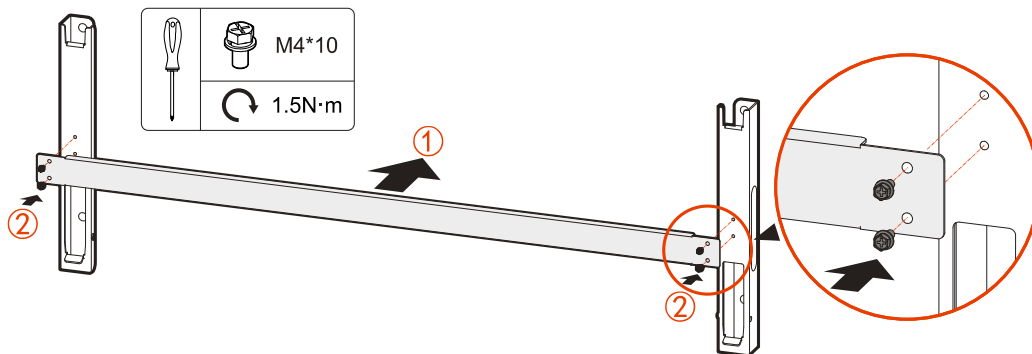

Figure3-18 Assemble installation holder
Step 1 Use the four M4*10 combination bolts in accessories to fix the installation holder with the joint lever, as shown in Figure3-18.